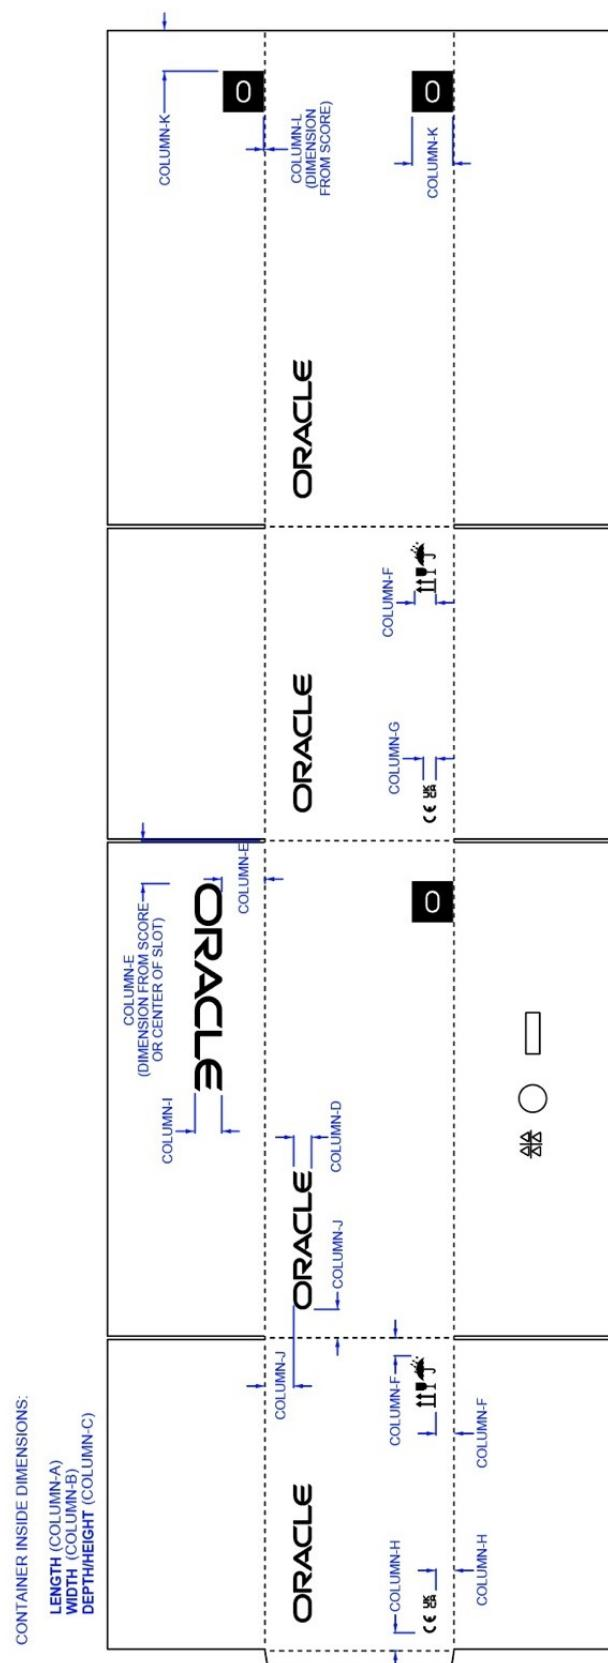

Figure 8. Dimensioned GLO Graphic Artwork Map
- Die Height and Margin dimensions for sizing and locating artwork is mapped in Figure 8, and specified in columns D-L of the Artwork Matrix. These correlate to the dimensions contained within a row of the Artwork Matrix, and are used together to properly size and layout the artwork elements for any container styles, using one of the graphic standards.